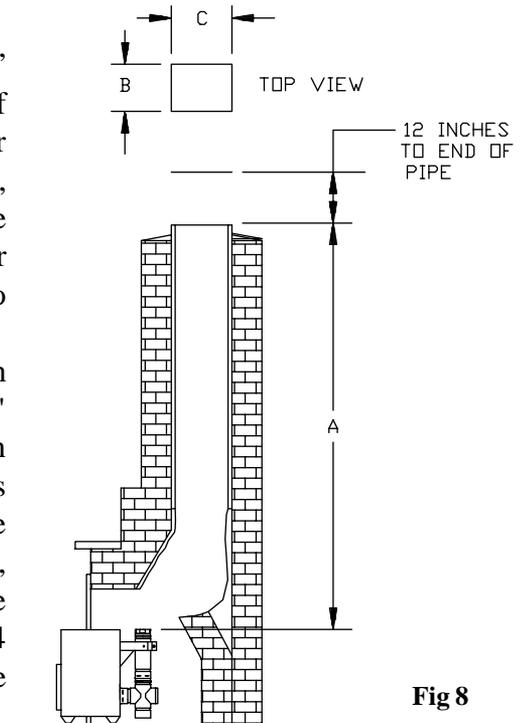

Fig 8
3. Measure and record the dimensions as shown in Figure 8.